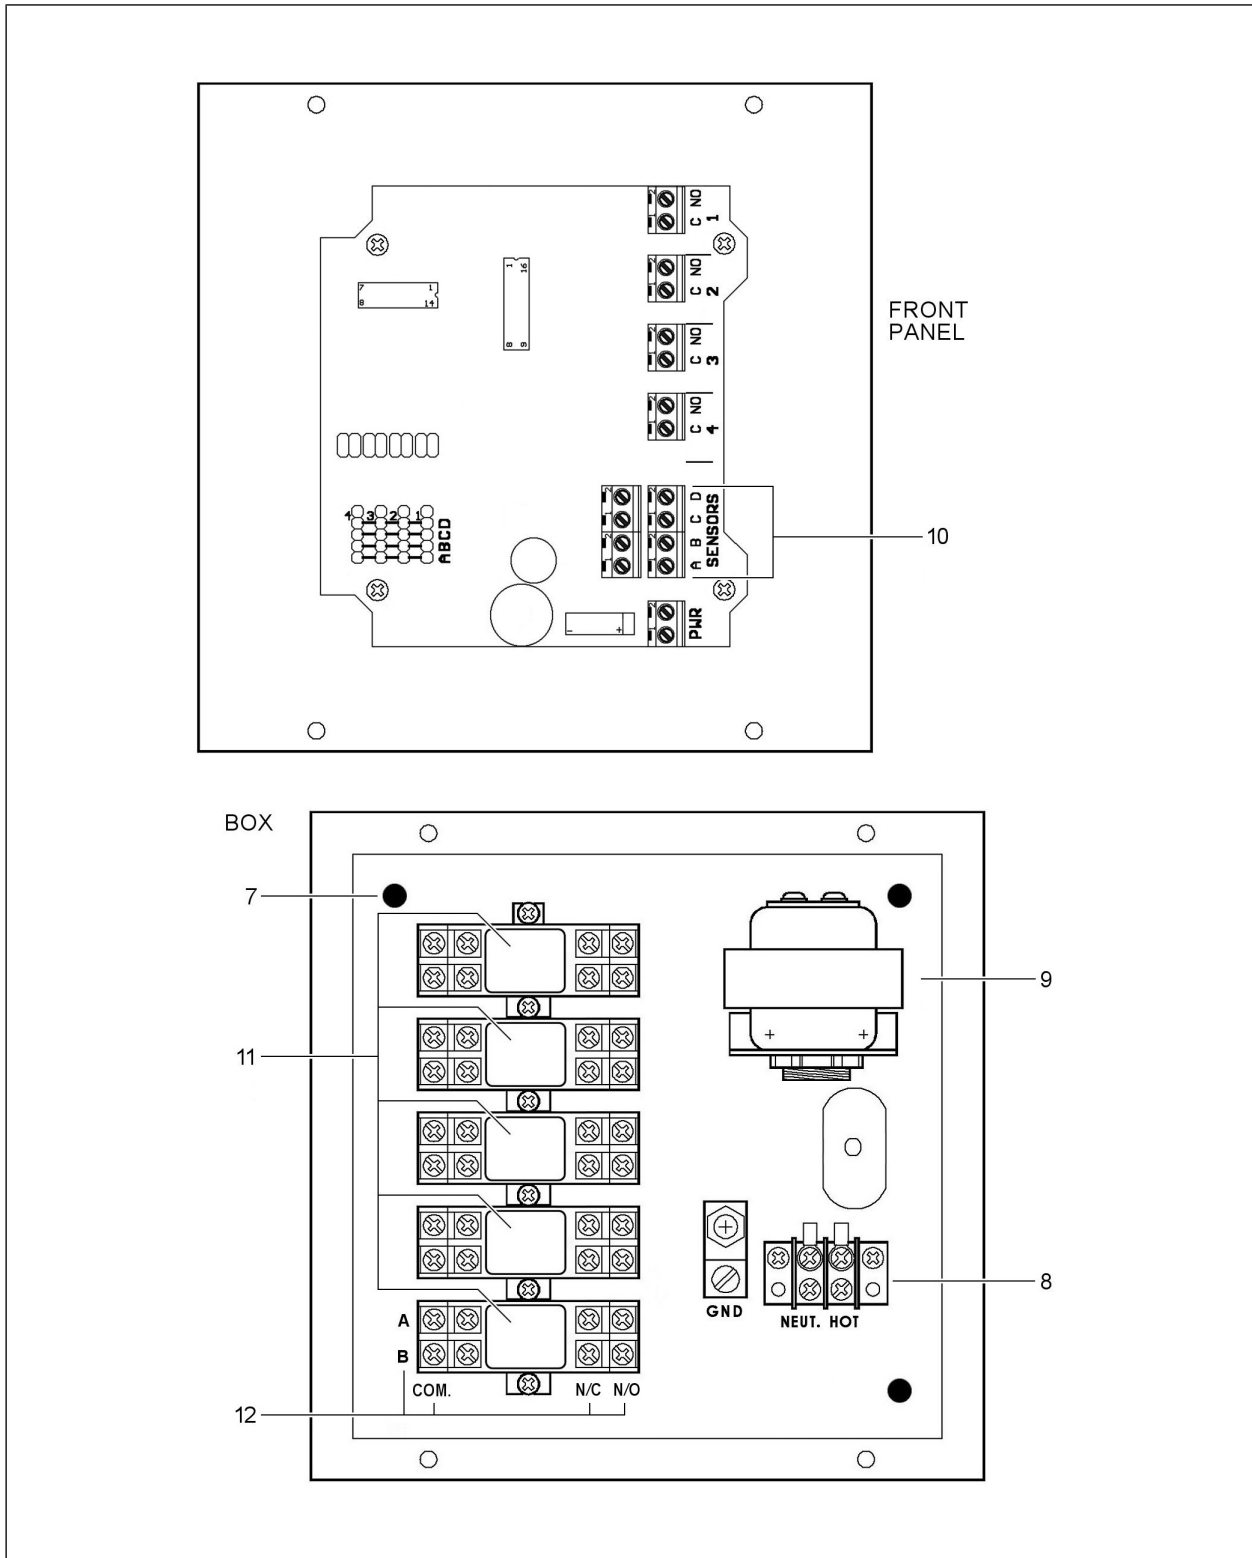

FIGURE 2: Internal features and relay contacts of the ATI-1503-4L annunciator.
Refer to FIGURE 2 for the following.
**POWER SUPPLY**            The monitor operates on a 120 VAC supply. Connections are made to the power terminal block located on the control card inside the unit (see FIGUREs 2 and 3).
**RELAYS**                    There are 5 internal DPDT relays (one per channel + one for user's equipment). The relay contacts are rated up to 15 Amps @ 120VAC/30VDC or 10 Amps @ 250VAC resistive. External alarms or devices can be connected to the relay contact terminals (see FIGURE 2). See FIGURE 4 for field wiring of the latching relay for external equipment.